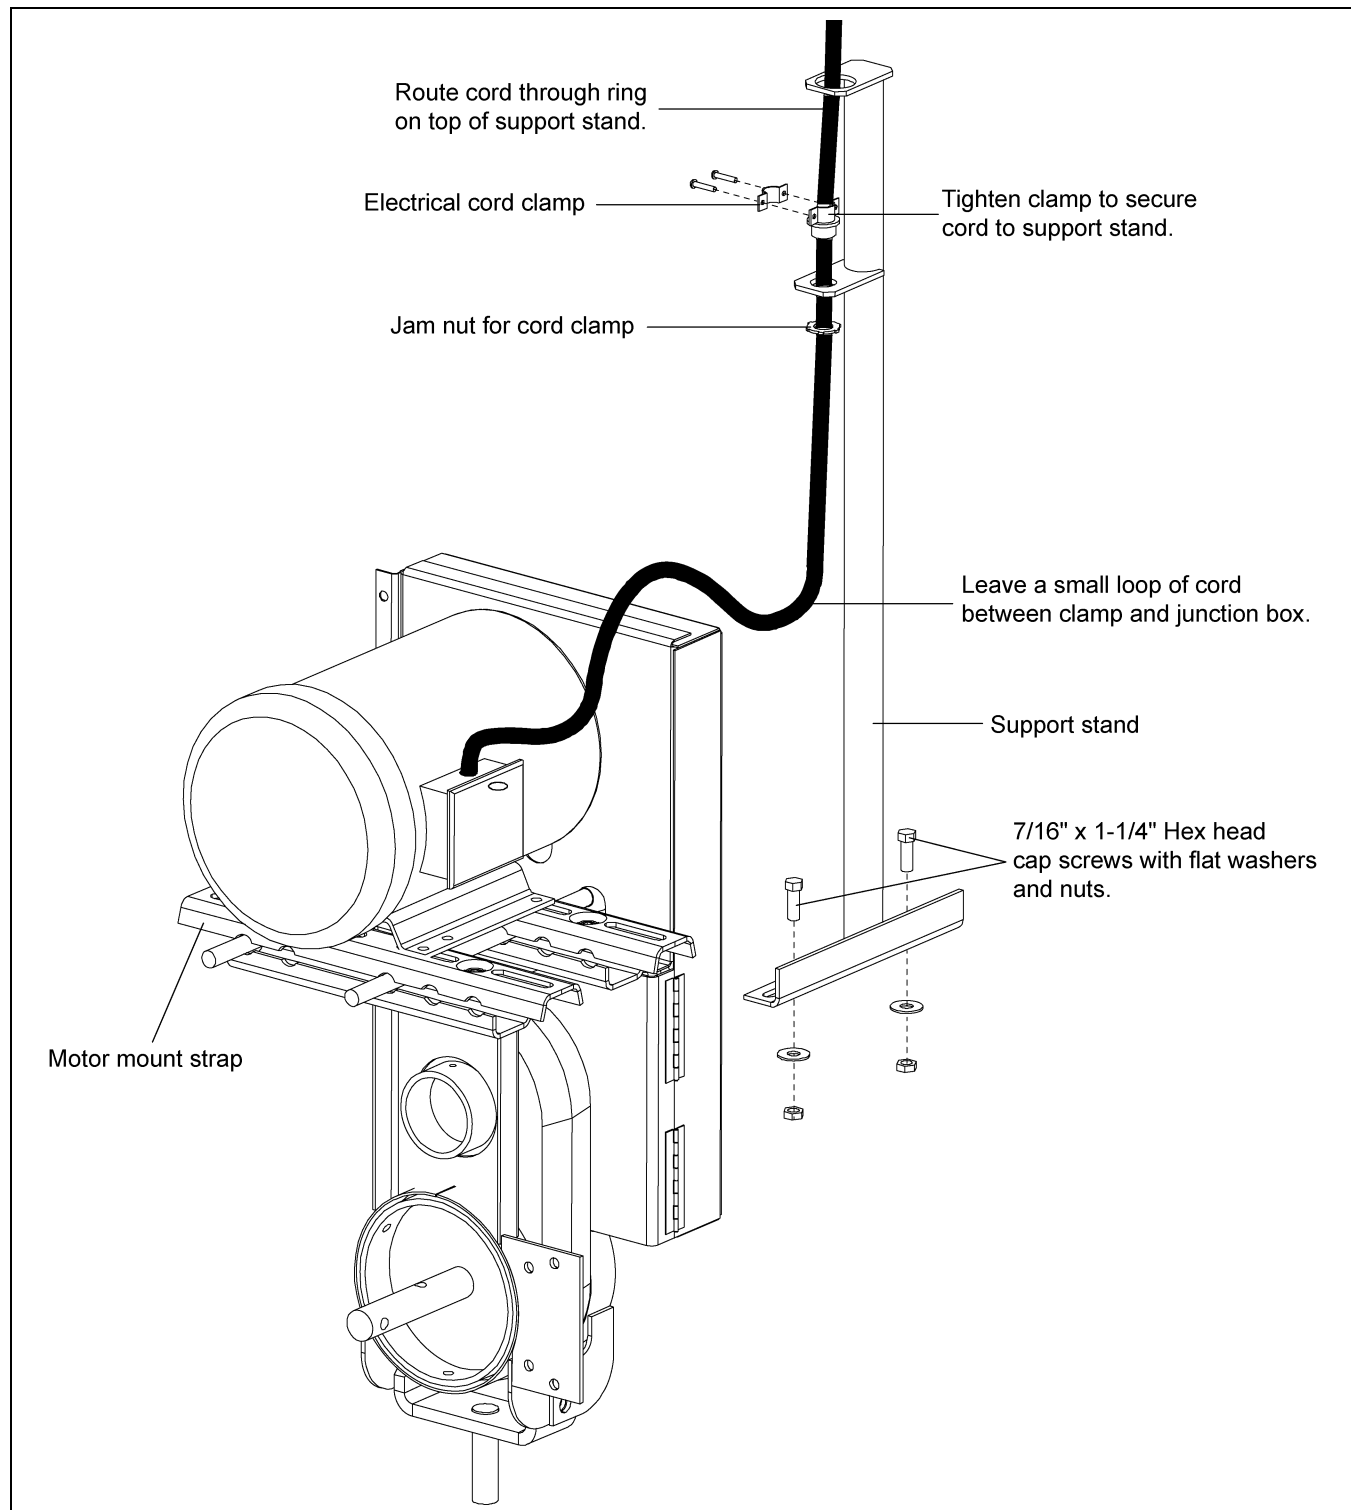

Figure 4D
1. Install support stand onto the motor mount straps using two (2) 7/16" x 1-1/4" HHCS bolts, four (4) 7/16" flat washers and 7/16" nylock nuts. (See Figure 4D.)
2. Route the electrical cord from the motor through the support stand clamps. Leave a small loop of cord between clamps and motor. (See Figure 4D.)